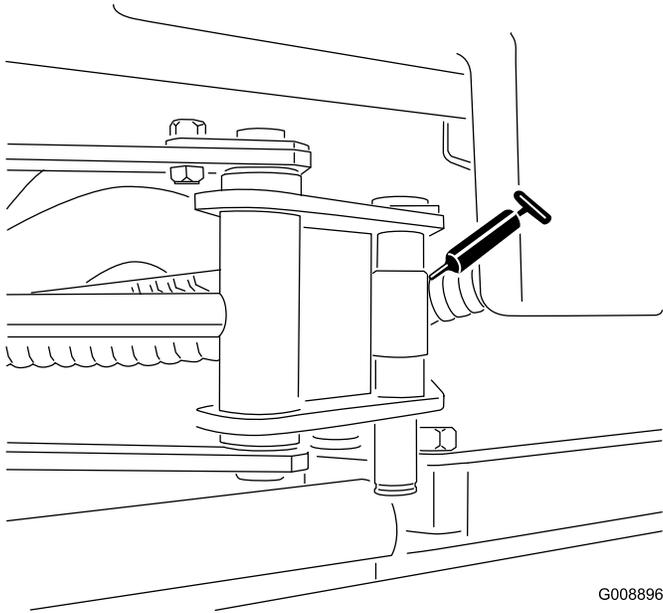

Figure 35
- SideWinder cylinder ends 2 (Figure 35)